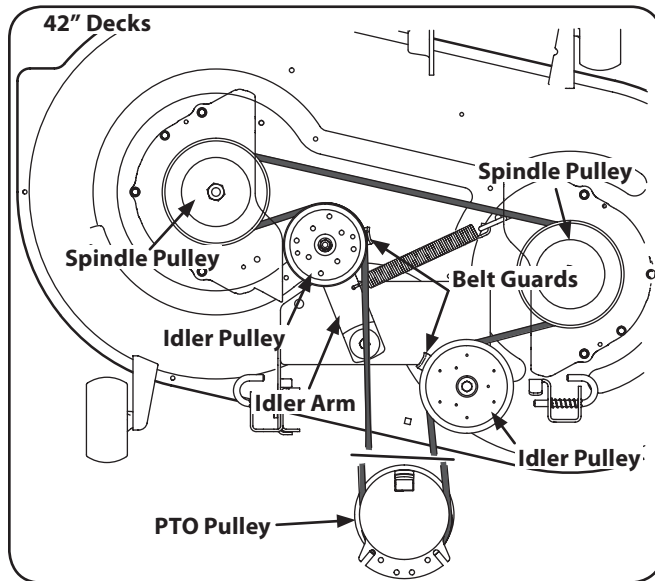
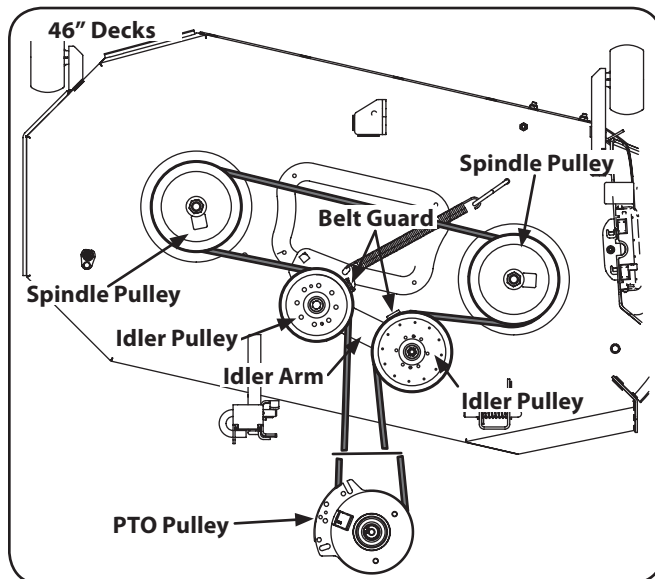
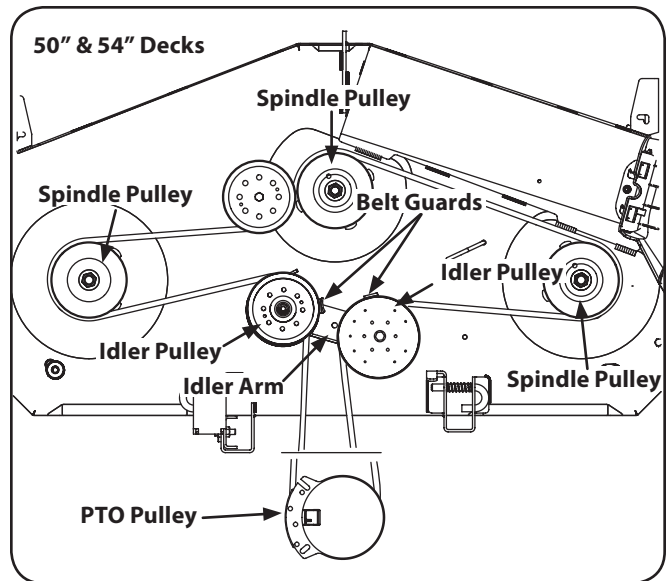

Figure 7-8
Figure 7-9
Figure 7-10
2. Loosen, but do not remove the hardware on the right and left idler pulley. Refer to Figure 7-8 for 42" decks, Figure 7-9 for 46" decks and Figure 7-10 for 50" and 54" decks.